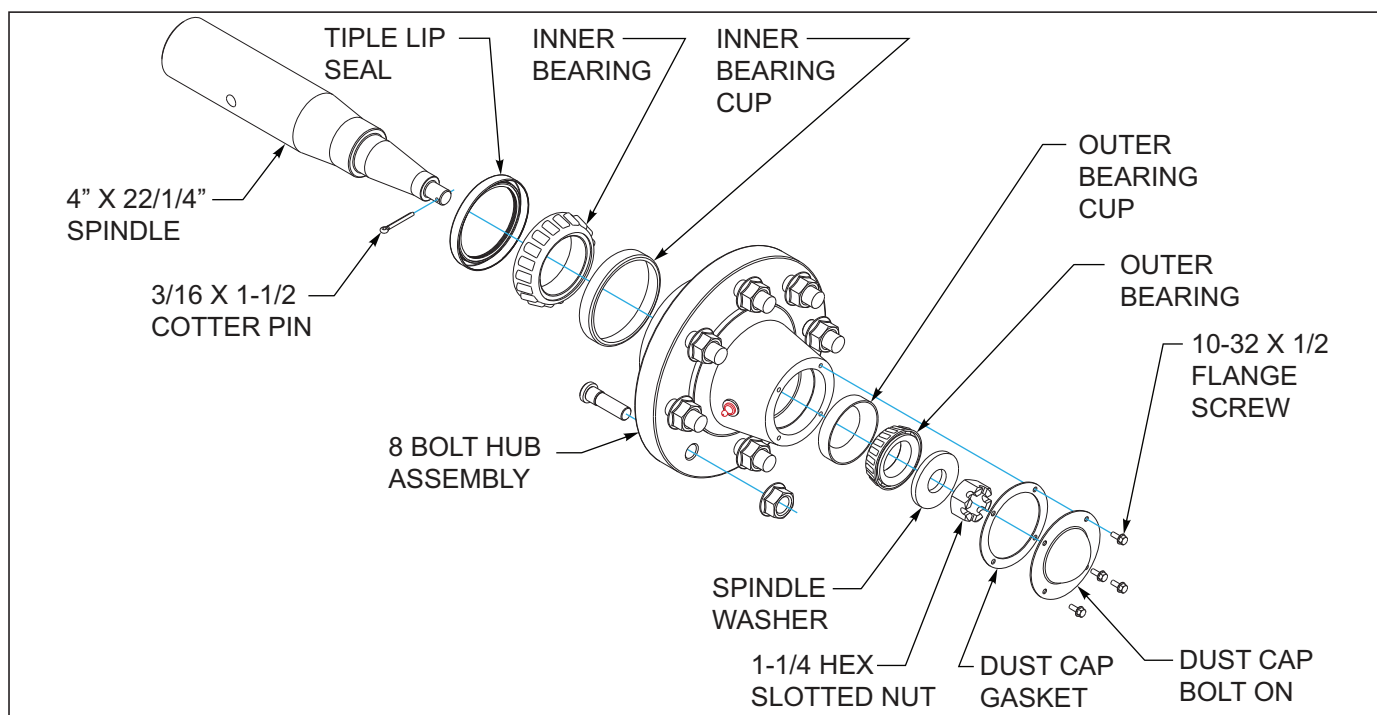

Figure 5-2: Wheel Bearing Maintenance
3. Remove the hub cap, cotter pin, slotted nut and washer *See Figure 5-2*.